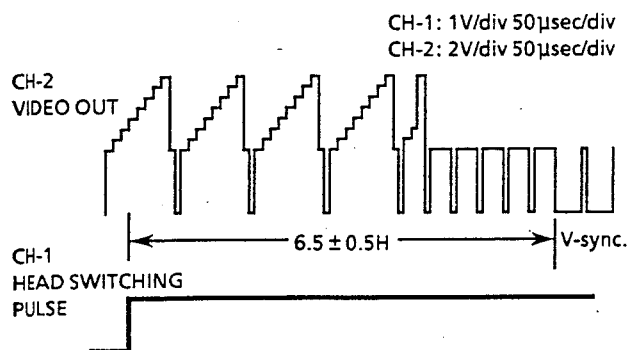

Figure 2-2.
5. Adjust R701 so that the leading edge of the head switching pulse is $6.5H$ (lines) ahead of the vertical sync as shown in Figure 2-2.